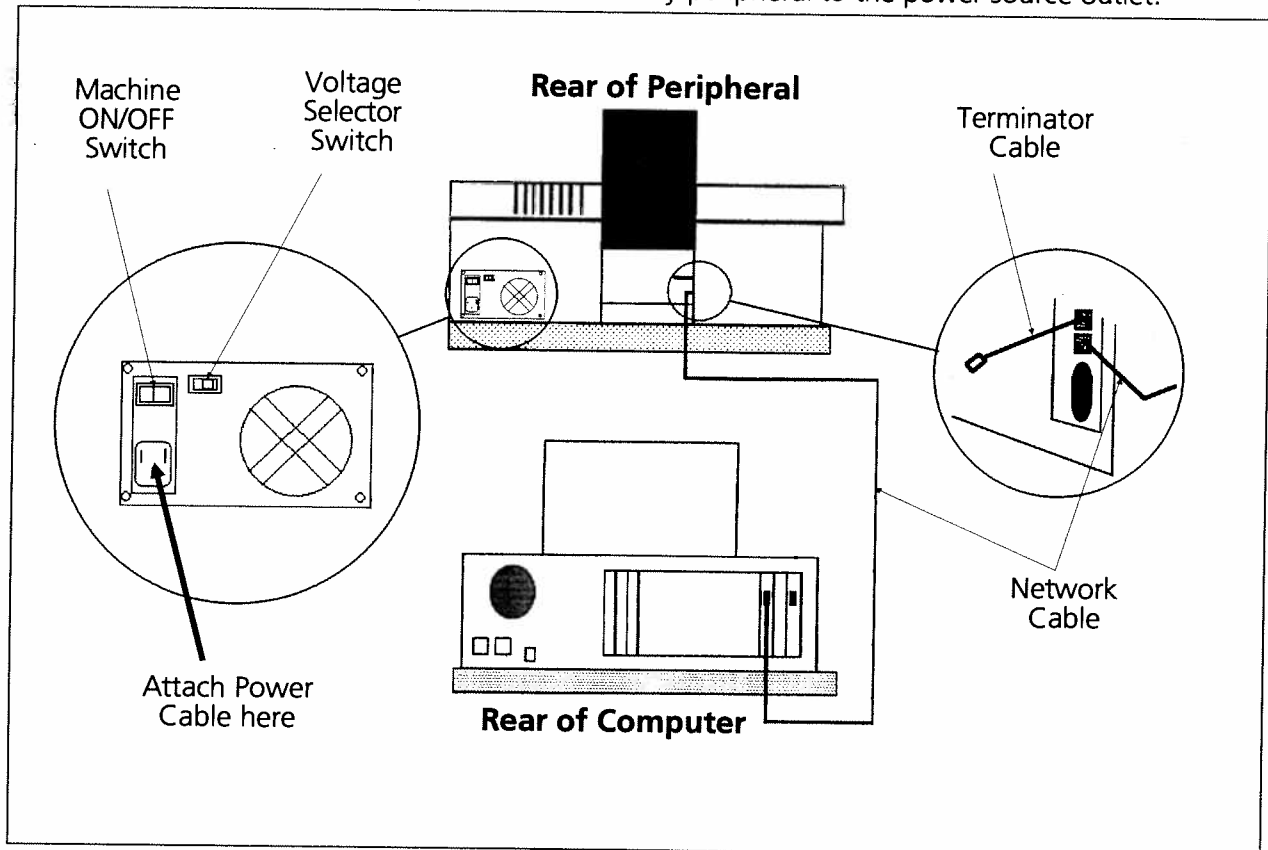

Figure 1-3
Attach the power cable to the rear of the unit as shown in Figure 1-3.
Melco suggests using a dedicated power line with a surge protector. The 115V - 220 voltage selector switch is at the right of the ON/OFF switch as shown in Figure 1-3. Set the selector switch to the proper setting for the voltage in your area.
Referring to Figure 1-3, install the network cable between the computer and the embroidery peripheral. If only one peripheral is attached to the computer, install the terminator cable to the embroidery peripheral as the figure shows. If more than one peripheral is attached to the computer, the terminator cable must be installed on the last peripheral of the series. All the peripheral units are linked to the computer through a "daisy chain" arrangement of network cables.
Configure the embroidery peripheral according to these steps and referring to Figures 1-3 and 1-4:
- * turn ON the power switch shown in Figure 1-3.